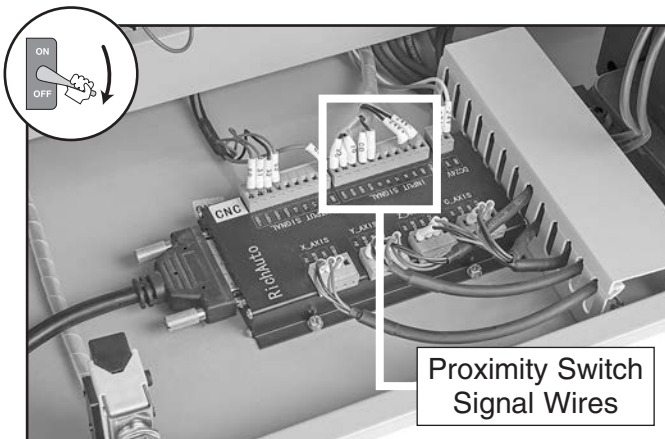

Figure 80. Controller module proximity switch signal wires.
6. Use a multimeter to check continuity between proximity switches and interface board terminals (see **Figure 80**).